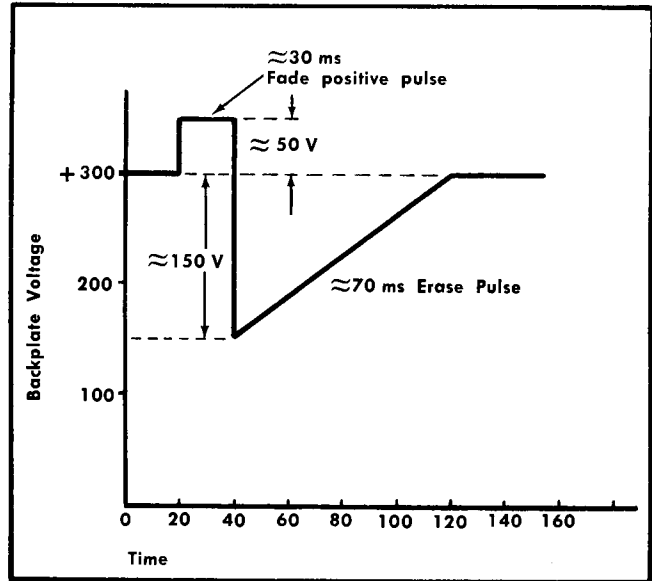

Fig. 6-50. Erase waveform.
e. Check erase pulse for a time duration of 70 to 130 ms. Fig. 6-50.